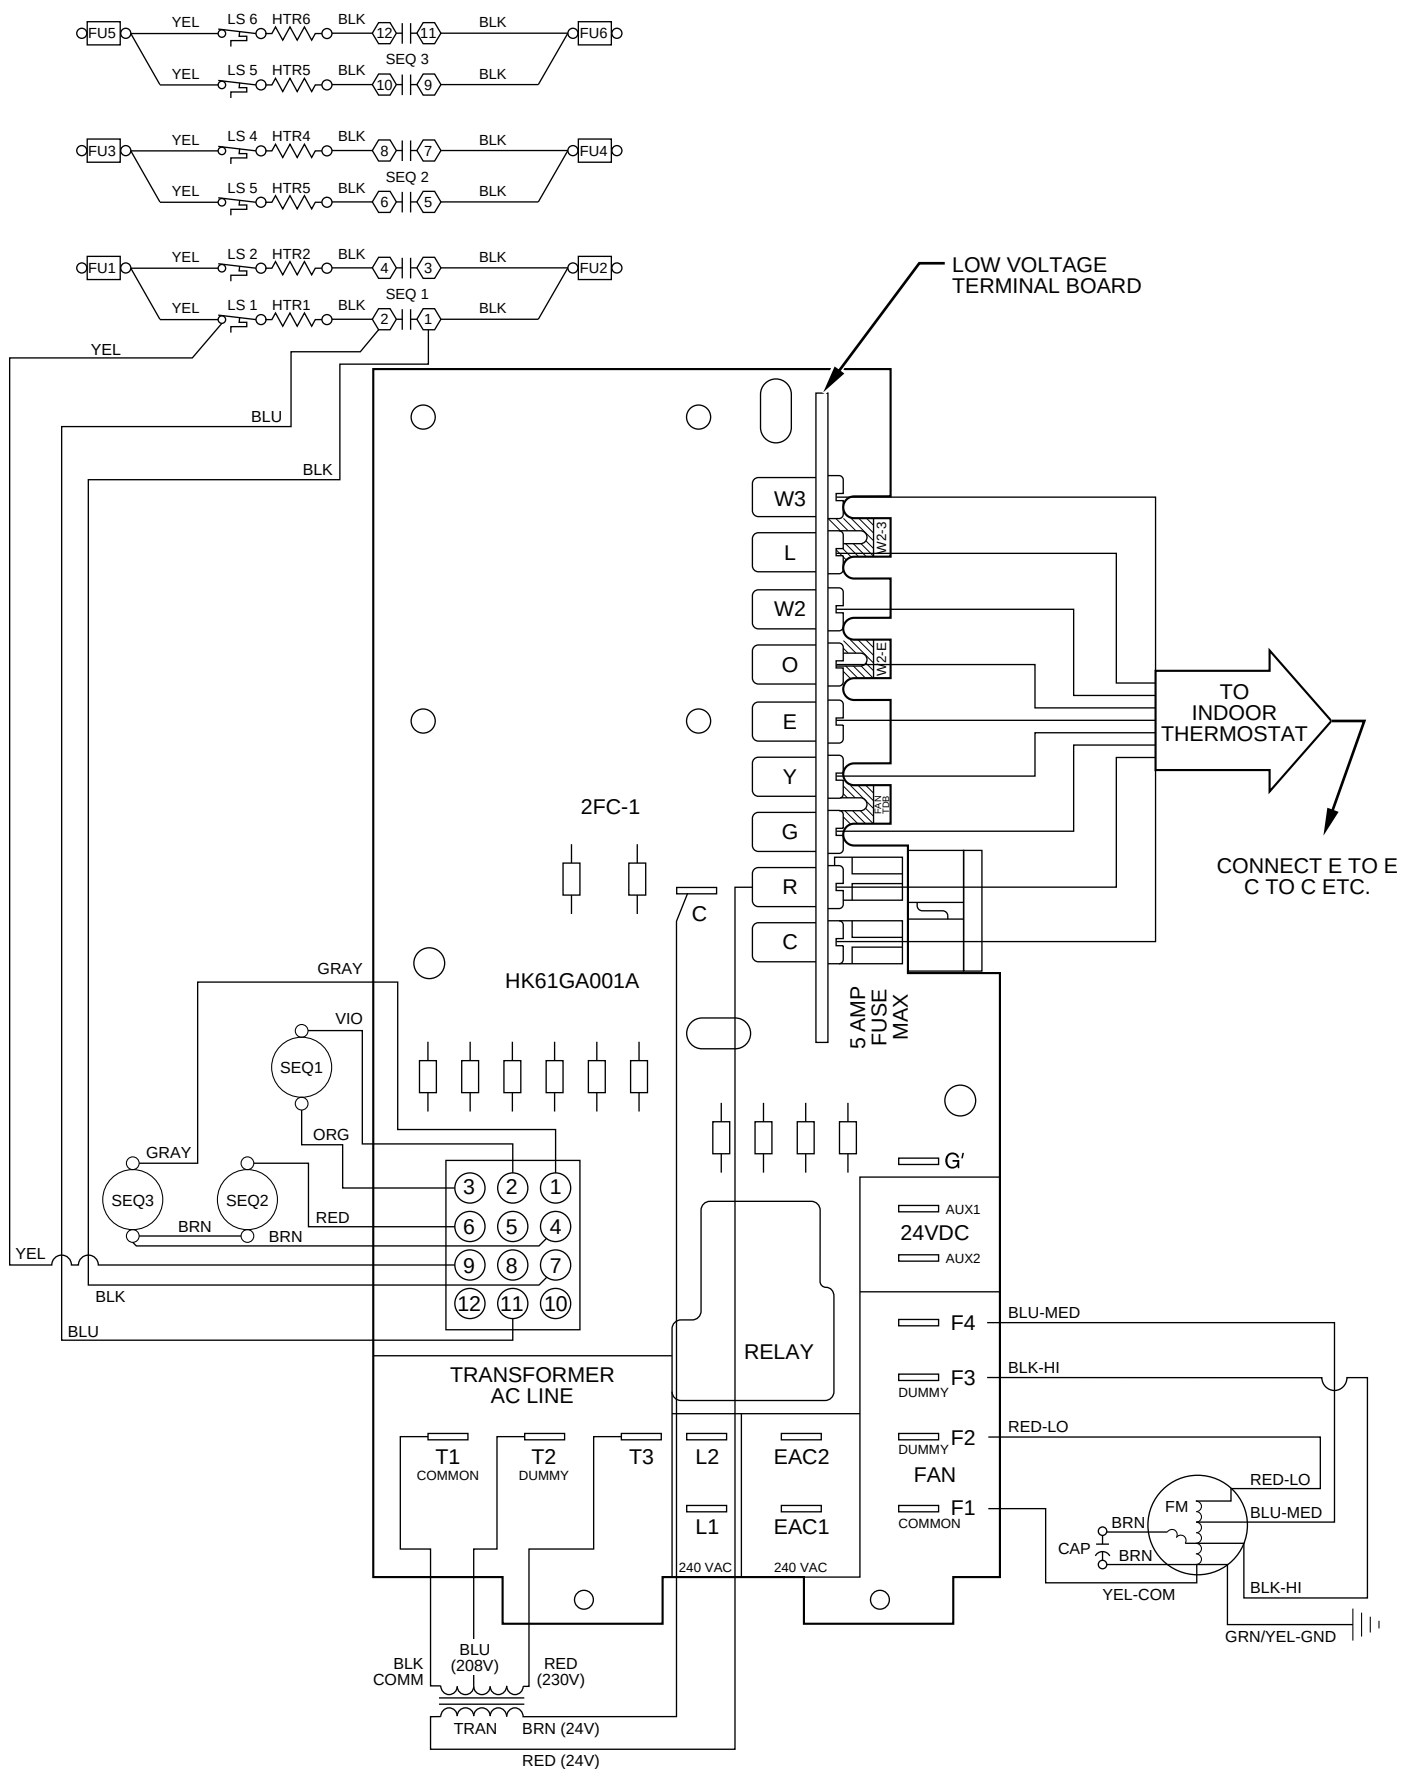

Fig. 8—10kw to 20kw Circuits
The low-voltage terminal board connects the indoor thermostat to the outdoor unit as shown in Fig. 8. The terminals are listed as follows along with their functional control.
The proper wiring of the transformer on the HK61GA001 board is illustrated in Fig. 8. Note that T1, T2, and T3 are wired to the primary or high side of the transformer. The blue wire is connected to T3 for 208-v applications. The red wire is connected to T3 for 230-v applications. Units are factory wired at 230v. The T2 terminal is a dummy.
1. Wiring--The fan connects to F1, F2, F3, and F4 as shown in Fig. 8. Note that F2 and F3 are dummy terminals. The desired fan speed is connected to F4 and the common is connected to F1. Units are factory wired at medium speed.